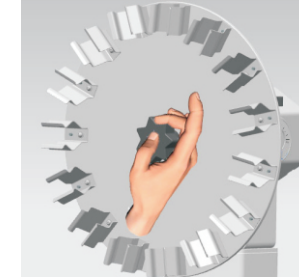

figure 2.
2. Screw in the fixed handle until the tray fastens, as shown in figure 2 (indicate on next page 3-6).